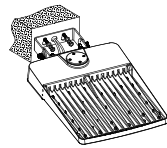

Figure 3-2
Step2: Fix the fixture on the expansion screws, Figure 3-2;